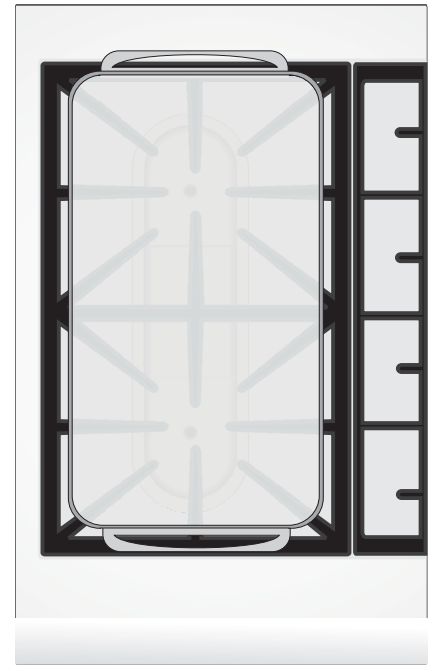

Figure 1
- Place either side of the griddle centered over the left side gas burners or over the Bridge Burner. For location refer to Figure 1.